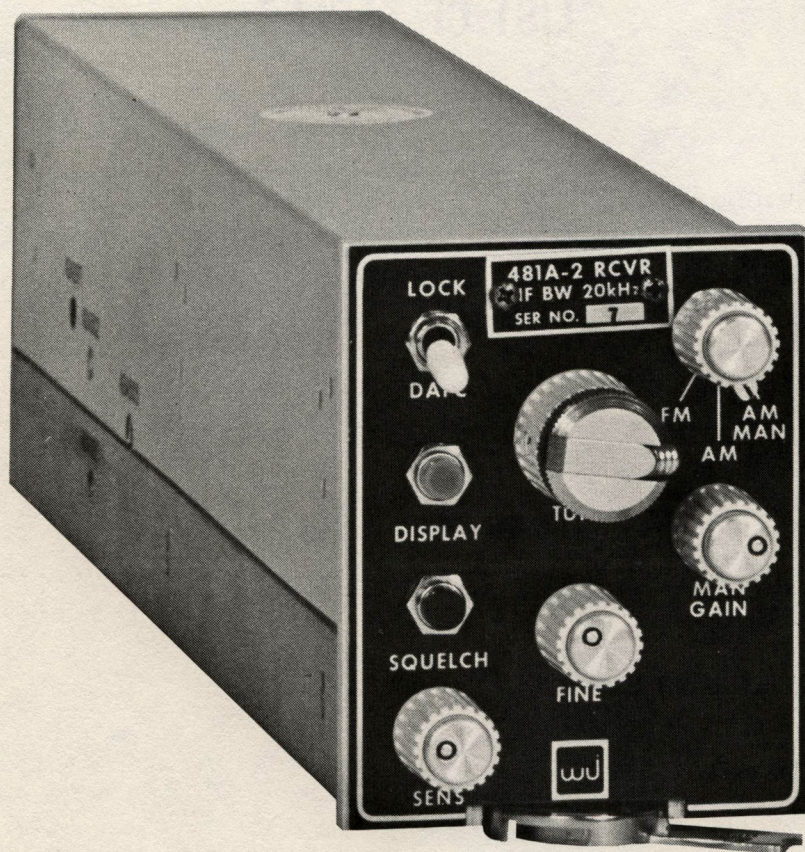
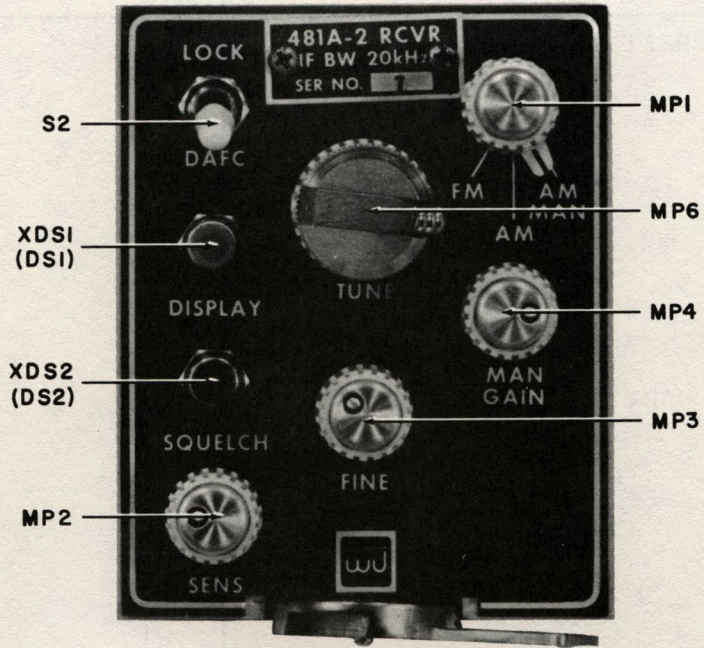

Figure 1-1. Type 480A VHF Receivers, Front View
Figure 5-1. Type 480A-(X) Receiver, Front View, Location of Components
1.2.2 A frontal view of one of the 480A Series Receivers is shown in Figure 1-1. Additional views are shown in Figures 5-1 through 5-4.